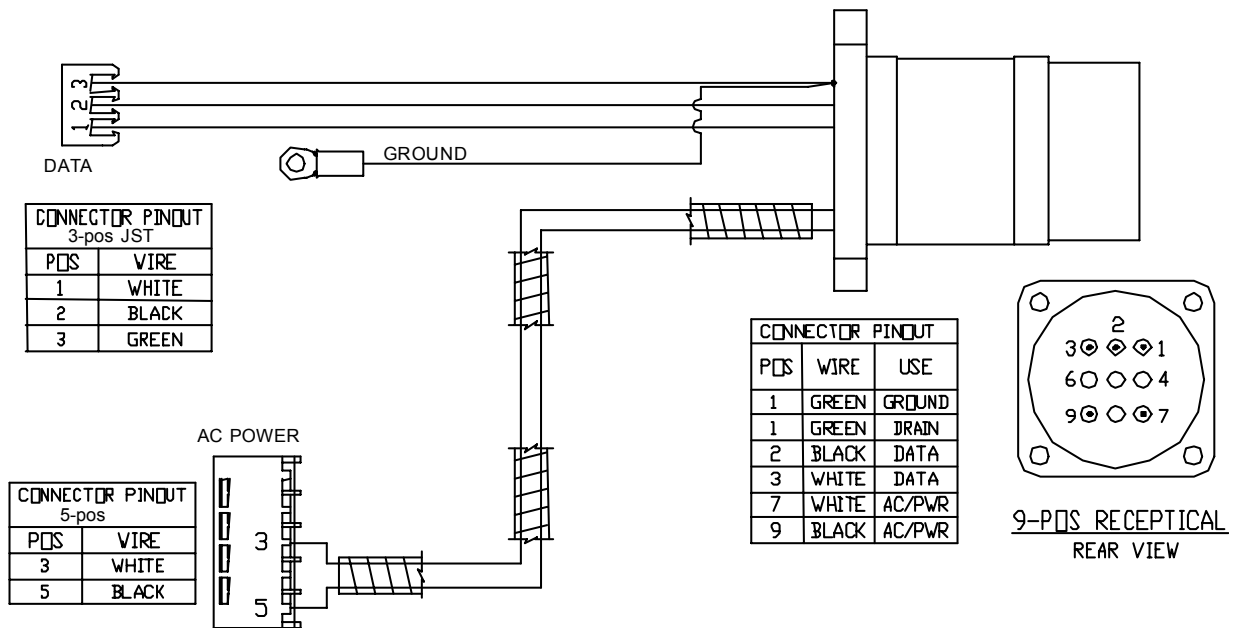

Figure 5.2 - AC/Data Input Cable (Composer Version)
- c. At 24V power supply 5-position connector on electronics plate, pins 3 (white wire) and 5 (black wire), check for appropriate voltage. See Figure 5.2 - AC/Data Input Cable (Composer/Composer Lite Version). If voltage is not present see 6.2.35 Replacing AC/Data Input Cable Assembly.
- c. At 9-position connector on plate and 3-position JST connector on controller PCB, check continuity of data cable. Connector position 2 corresponds with black wire and connector position 3 corresponds with white wire. See Figure 5.2 - AC/Data Input Cable \(Composer Version\).